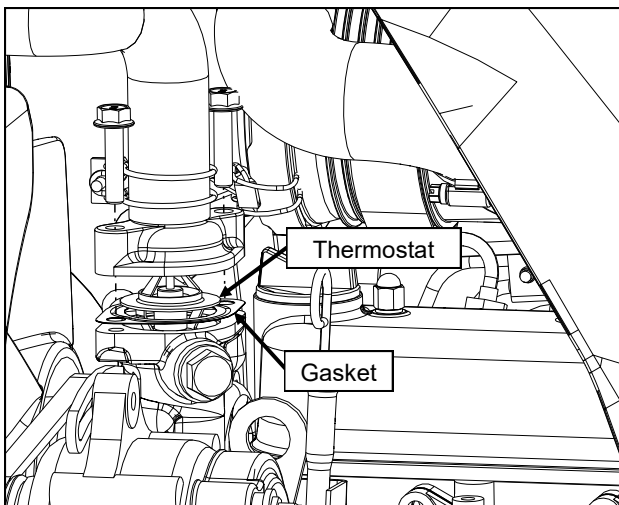

Figure 2.6 (Remove Thermostat)
- 2.6 Unbolt the thermostat housing and remove the thermostat and gasket. See Figure 2.6. Save the thermostat for re-installation, but discard the gasket and bolts.